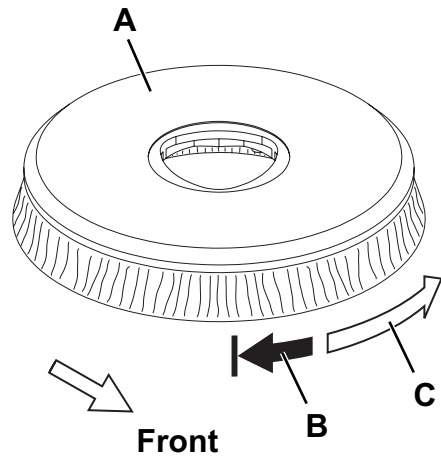

Figure 7
- When the deck (13) is lifted, grab the brush/pad-holder (A, Fig. 7) with the hands and turn it first in one direction (B) and then in the other direction (C) to release it.